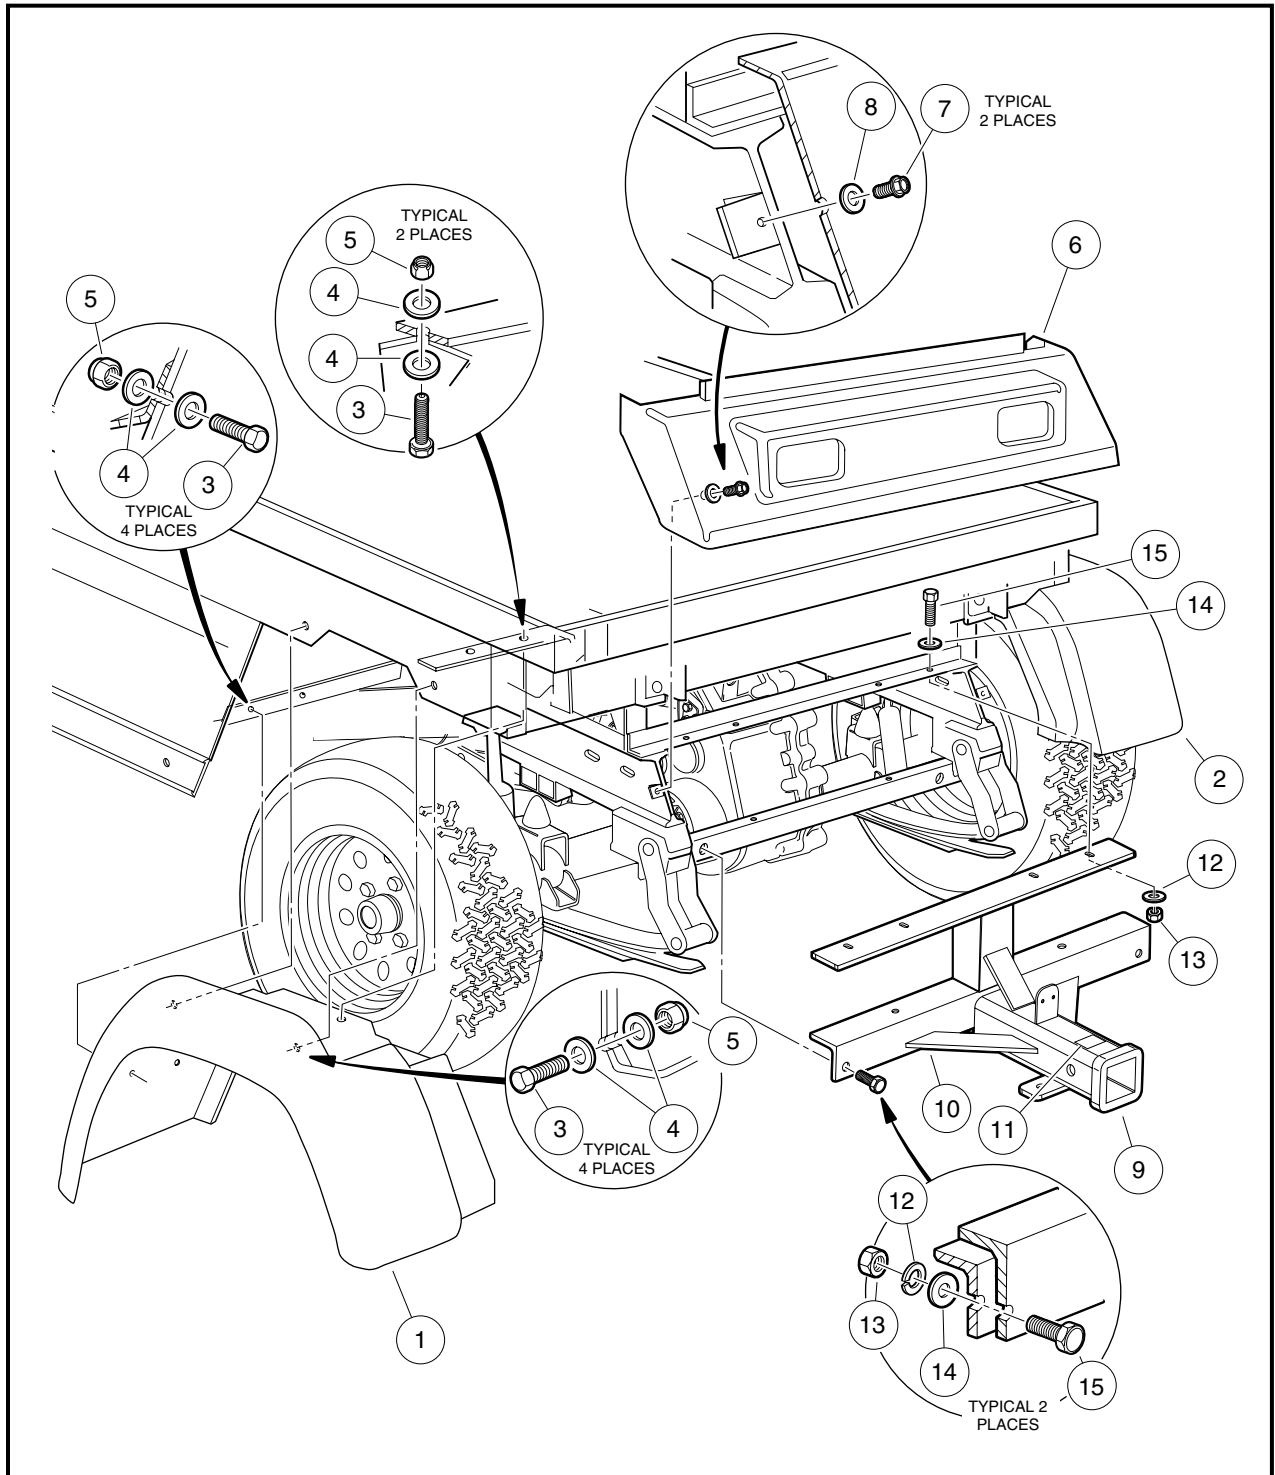

Figure 4-7 Rear Fender, Tailskirt, and Hitch – with MC012C-AS00 Transaxle
1. Remove one 1/4-20 nylon lock nut (5), fender washers (4) and 1/4-20 x 1-inch hex-head bolt (3) from the top, and underneath, of fender (1) (**Figure 4-7, Page 4-13**).
2. Remove the two 1/4-20 nylon lock nuts (5), fender washers (4) and 1/4-20 x 1-inch hex-head bolts (3) from the front surface of the fender (1).
3. Remove the two 1/4-20 nylon lock nuts (5), fender washers (4) and 1/4-20 x 1 inch hex-head bolts (3) attaching the fender wall (1) to the vehicle frame.
4. Remove fender (1) from the vehicle.
1. Reverse the rear fender removal process. Tighten bolts to 35 in-lb (4.0 N·m) (**Figure 4-7, Page 4-13**).
1. Remove the two thread-forming screws (7) and flat washers (8) from the tailskirt (6) and slide tailskirt from under the back edge of the rear of the body and vehicle frame (**Figure 4-7, Page 4-13**).
2. Remove two 5/16-18 hex nuts (13), lock washers (12), flat washers (14) and 5/16-18 x 1-inch bolts (15) from the top of hitch (10) brace (**Figure 4-7, Page 4-13**).
3. Remove two 5/16-18 hex nuts (13), lock washers (12), flat washers (11) and 5/16-18 x 1-inch bolts (18) where the hitch frame (10) mounts to the vehicle frame and remove the hitch.
1. Reverse the receiver hitch removal process and tighten bolts to 15 ft-lb (20.3 N-m) (**Figure 4-7, Page 4-13**).